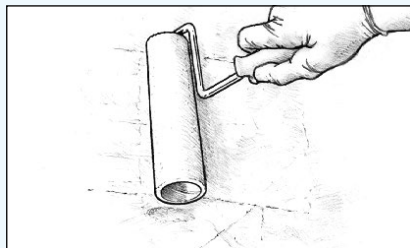

Figure 30 Roll lightly and randomly over a small area. Spread the epoxy into a thin even film.
4. Roll lightly and randomly over an area approximately 600mm x 600mm to transfer the epoxy evenly over the area (*Figure 30*).